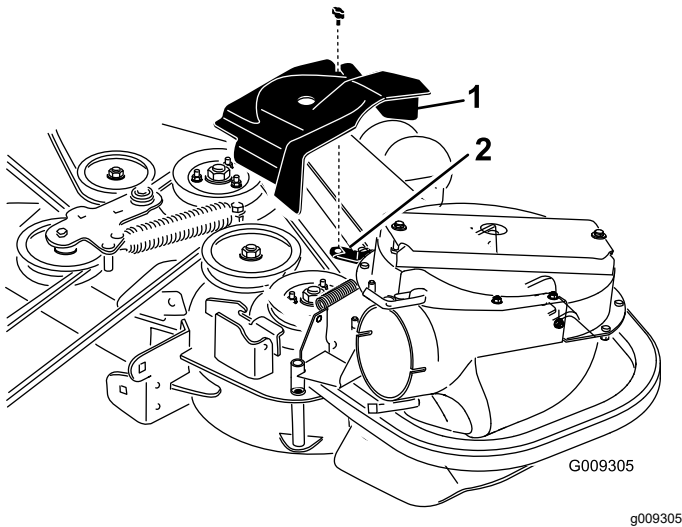
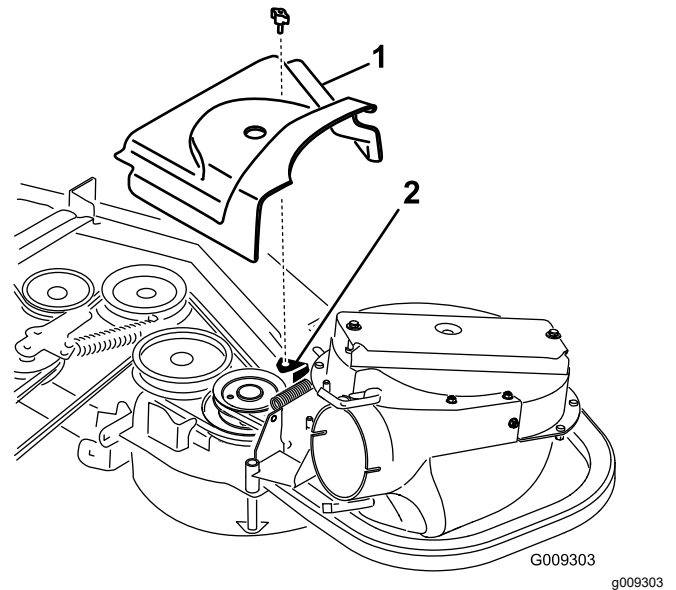

Figure 31
Figure 32
2. Install the new belt cover so that the notches on both sides go over the belt-cover supports and secure the latch (Figure 31 or Figure 32).